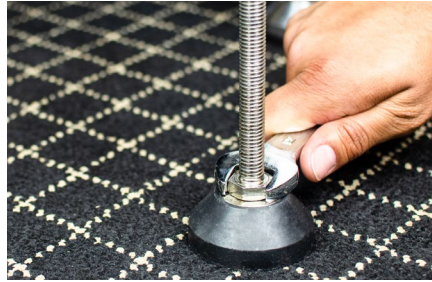

Figure 51
3. Level the table support legs by rotating each peg counterclockwise until they reach the floor. Then, tighten each nut. **See Figure 51.**